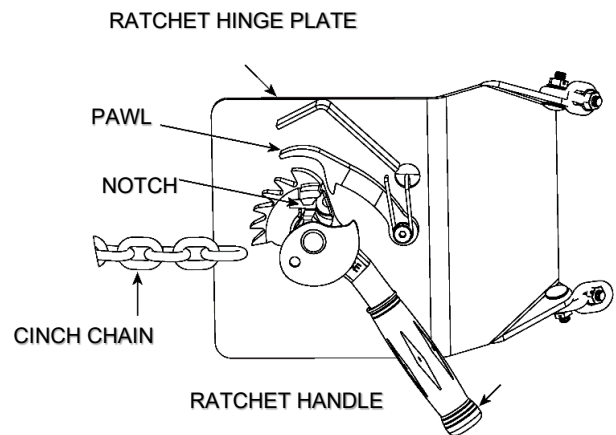

Figure 3.2
2. Using the "LIFT" control as described in "Machine Description - Controls" position the drum holder assembly with the back band at the middle of the drum. (Figure 3.2). With the ratchet plate swung open and the cinch chain hanging from the chain hook, push the unit until the back band rests firmly against the drum. Some adjustment to the tilt angle of the saddle may be necessary to ensure band fits flush on the drum.
3. Attaching the drum: Drape the chain across the front of the drum and engage a link into the notch in the ratchet (Figure 3.2). Turn the ratchet clockwise to tighten the chain. If the ratchet turns until the pawl is beyond the last ratchet tooth, turn the ratchet back and slide the next link into the ratchet notch and try tightening again. The chain must be held tightly against the drum with the pawl engaged securely in the ratchet teeth.